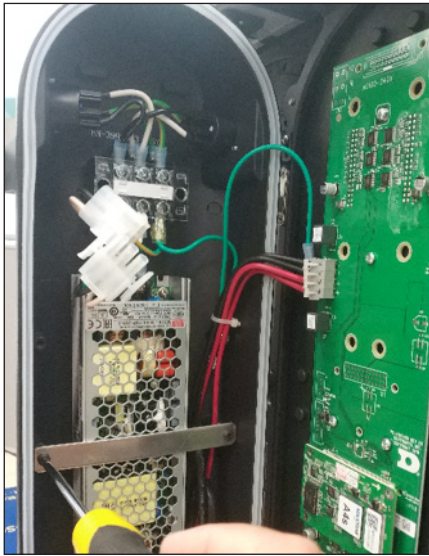

Figure 26: Remove Safety Bar
4. Use a Phillips screwdriver to remove the safety bar. Refer to **Figure 26**.